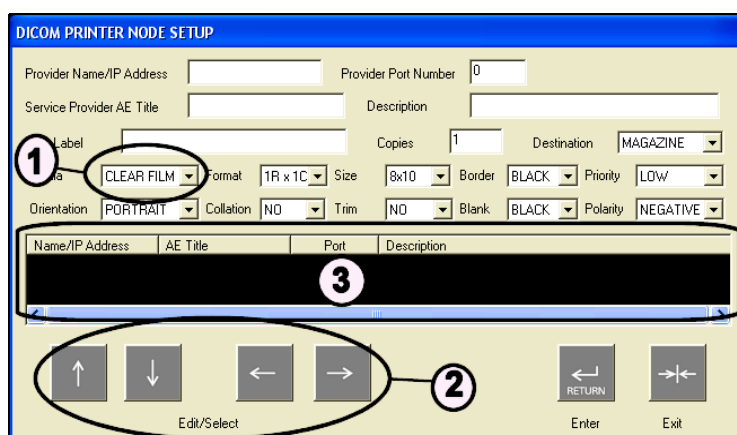

Fig. 10 Operation Example 2
Switch between entry fields in a submenu	- Arrow keys UP DOWN LEFT RIGHT, see also 2/ Fig. 10
Select an entry in a list box 1/ Fig. 10	- Highlight the list box with arrow keys. - Open the list box with "Return". - Select the desired entry with the UP DOWN arrow keys. - Confirm selection with "Return".
Transfer data records into text fields 3/ Fig. 10	- Press "CTRL" + "A" simultaneously. Example 3 / Fig. 10, DICOM printer configuration: After entering the DICOM node data and setting the list box entries, you can press "CTRL"+"A" to transfer these as a data line into the text field 3/ Fig. 10.
Change data records displayed in text fields 3/ Fig. 10
- With the arrow keys select the data line in the text field to be changed 3/ Fig. 10.
- An additional data line is displayed in the text field 3/ Fig. 10.
Delete data records displayed in text fields 3/ Fig. 10
- Select the data line in the text field to be deleted with the arrow keys 3/ Fig. 10.